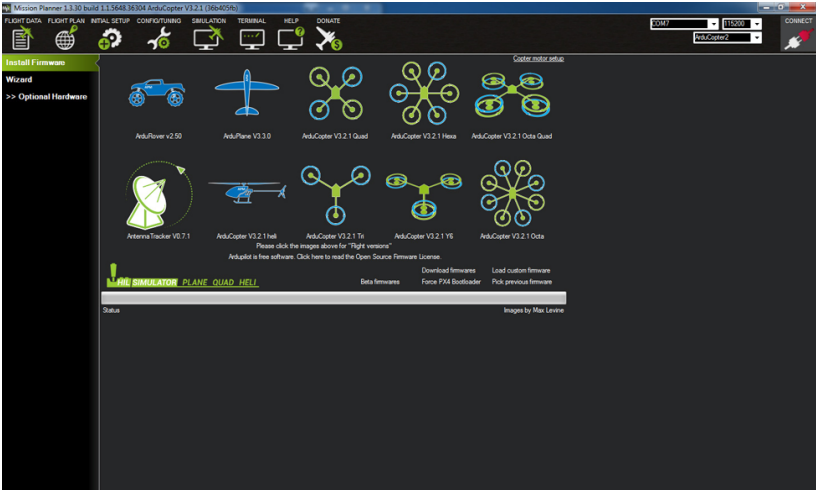

Figure 9-1. Select the type of firmware you need to update (ArduCopter Quad, in our case).
- d. From the graphic buttons in the middle of the screen, select ArduCopter vX.X Quad (where vX.X is your version number) as the firmware type; see Figure 9-1.